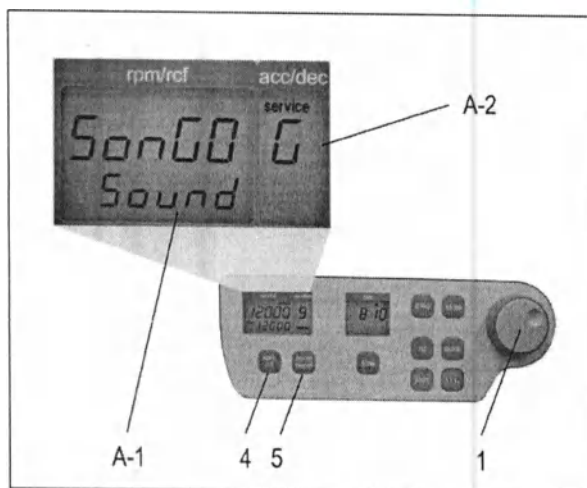

Figure 6
Proceed as illustrated, under point 1.8.1, to enter this program mode, press the key, "accel/decel" (5). In the display, "accel/decel" (A-2) flashes the word, "service". Select the letter, "G" with the adjustable knob (1). As a result, appearing in the display, "rpm/rcf" (A-1), the word "SonGo/Sound". After pressing the key „rpm/rcf" (4), select a song with the adjusting knob (1), (see Figure 6).